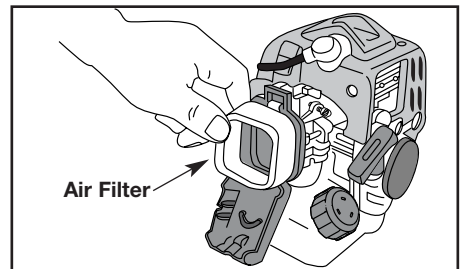

Fig. 22
2. Remove the air filter (Fig. 22).
6. Reinstall the filter (Fig. 22) and air filter cover.